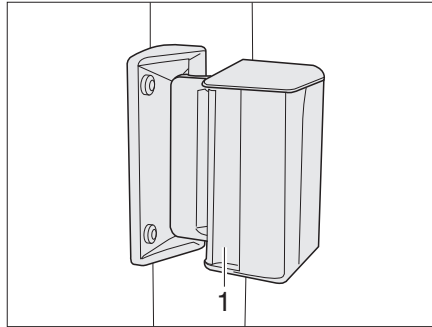

Fig. 63 Sliding window
- Press handle (Fig. 63,1) and push or pull it forward or backward at the same time.